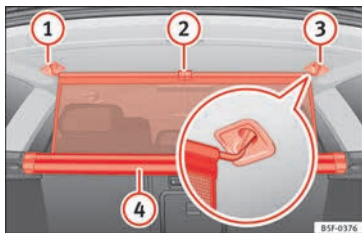

Fig. 165 In the luggage compartment: pulling out and securing the net partition.
- Pull up handle » **Fig. 165** (2) to remove the net from the casing (4).
- Hook in the net partition on the right side (3) (magnified image).
- Hook in the net partition in the left side housing (1) pulling the rod.